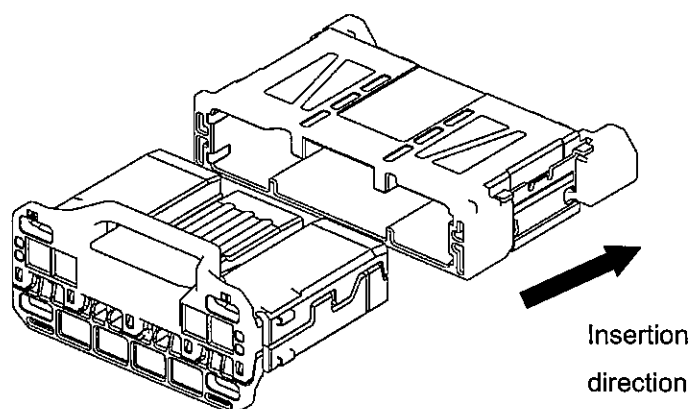

Fig.26
(1) Check contact insertion condition, wire taping position and no space between layers. In case of finding the space, the layers should be returned to correct position (6-4).
(2) Check contact deformation, discoloring, cuts, stain and housing crack, missing, discoloring.
(3) Specified Female housing should be inserted straightly (Fig. 26).